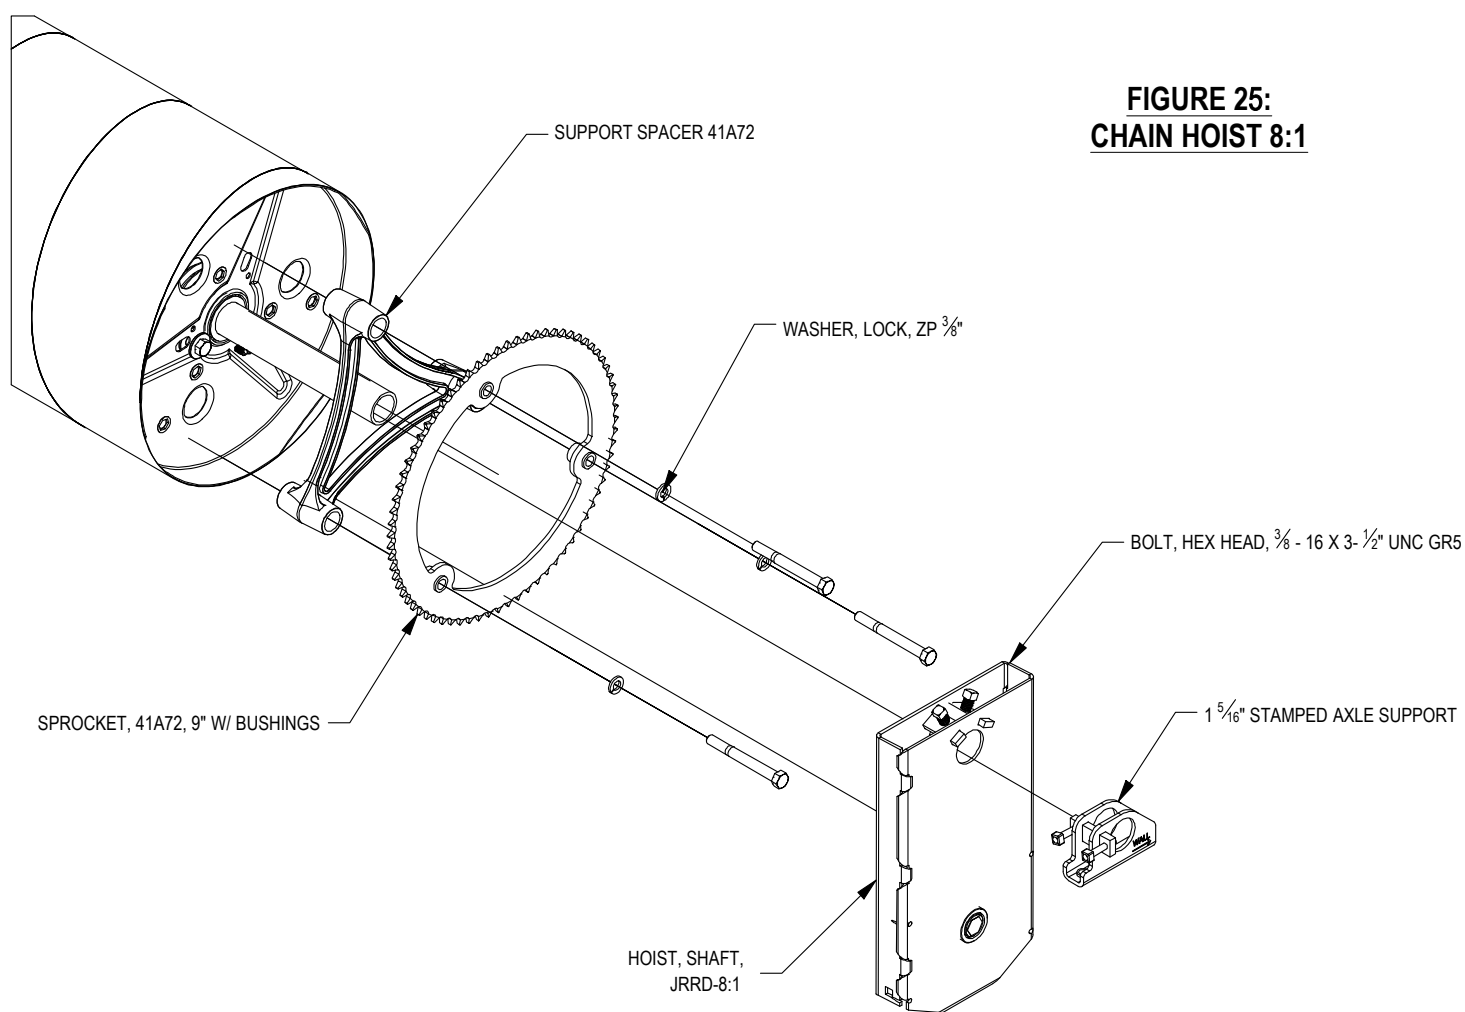

FIGURE 25:
- ▶ Attach Support Spacer, and Sprocket to Drum using (3) $\frac{3}{8}$ -16 x 3- $\frac{1}{2}$ " hex bolt and $\frac{3}{8}$ " lock washers
- ▶ Tighten 3/8" - 16 square head set screws when in place. See Figure 25.